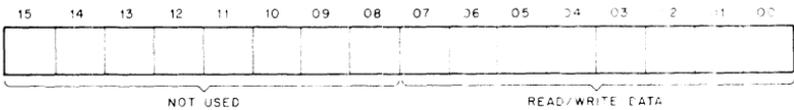

Figure 4 RXDB Format
**RX Data Buffer (RXDB) (Figure 4)** – All information transferred to and from the floppy media passes through this register and is addressable only under the protocol of the function in progress.